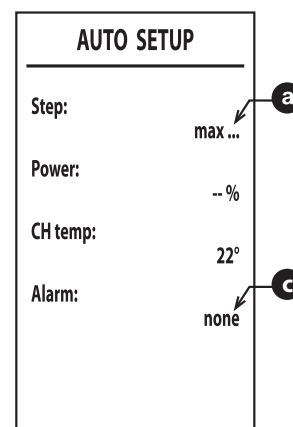

fig. 48 -
6. After ignition, the burner is positioned at the various powers (max, med, min) indicated by the point ("fig. 48 -").
8. If the ignition sequence described in point "6" is not successful, the message max_err will appear at point and an error code at point ("fig. 48 -").